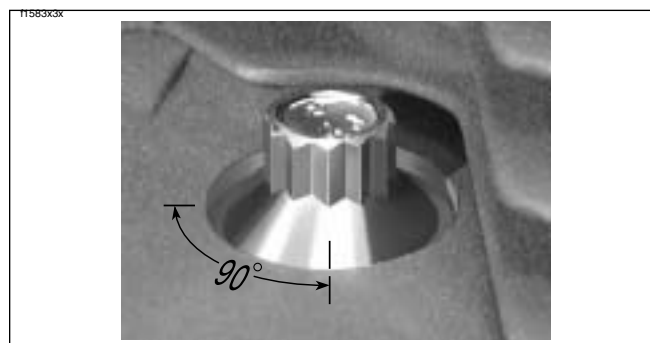

Figure 2. Turn Cylinder Head Bolts Additional 90°
3. See Figure 2. Mark cylinder head and head bolt shoulder with a line as shown. Tighten bolts an additional 90°.